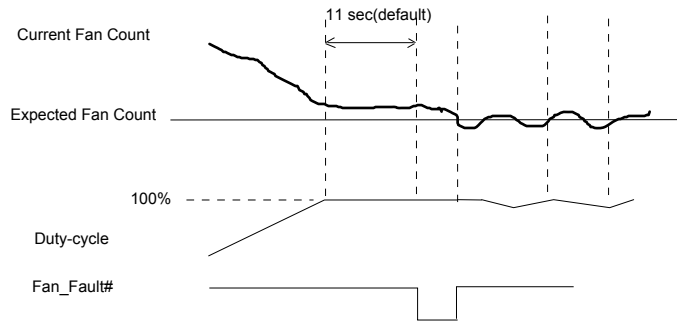

Fig 7-16
(1). When PWM_Duty reaches 0xFF, the fan speed count can't reach the fan expected count on time. (Figure 7-16)